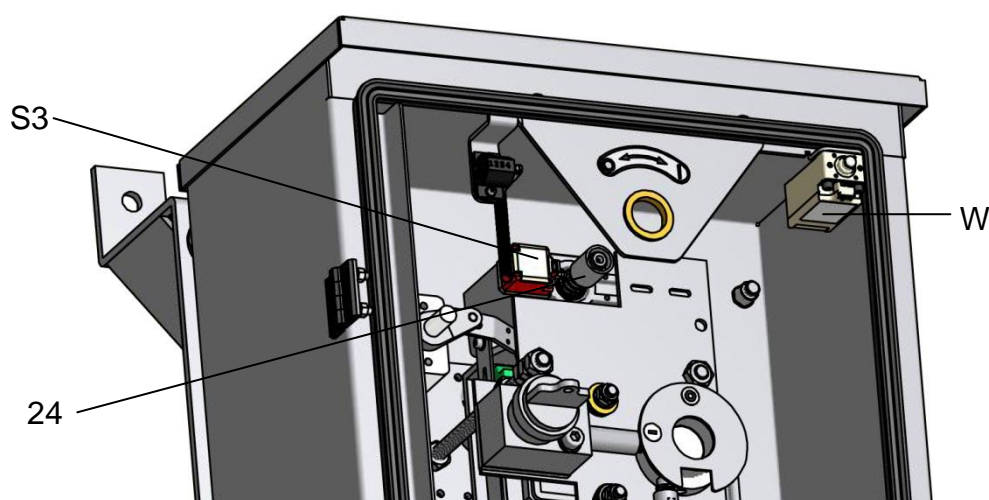

Fig. 2: without cover and door
S3 emergency hand crank switch (Fig. 2, 3, 4 and 8)
S2A and S2E pilot switch motor drive (Fig. 2 and 8)
Emergency hand crank pressing-off fixture (Fig. 2, 3, and 8)
After 10.000 switching cycles or 10 years	<p>Activities as described under annual.</p> <p>Lubricate the following components of the motor drive with the lubricant Isoflex NBU¹ (see 7.1) so that the interacting components are sufficiently lubricated:</p> <ul style="list-style-type: none"> • Guide rollers (15) on both sides, driver pin (21) inclusive guide rails (16) on both sides and connecting fork (17) • Ball and screw spindle drive (18) and both rolling-contact bearing (19) • Bevel gearing (20) and shifting sleeve (10) at the emergency manual drive (it is necessary to remove the covering (25)) • All moveable parts <p>Function control of the pilot switches (S2A a. S2E, see fig. 1,2 and 8), protective motor switch (R), emergency switch (S3, see fig. 2), heating (K) and thermostat (T). Carry out a functional check (see 4.2.4).</p> <p>Attention: For the friction clutch (22) to work properly, it must not come into contact with lubricant.</p>